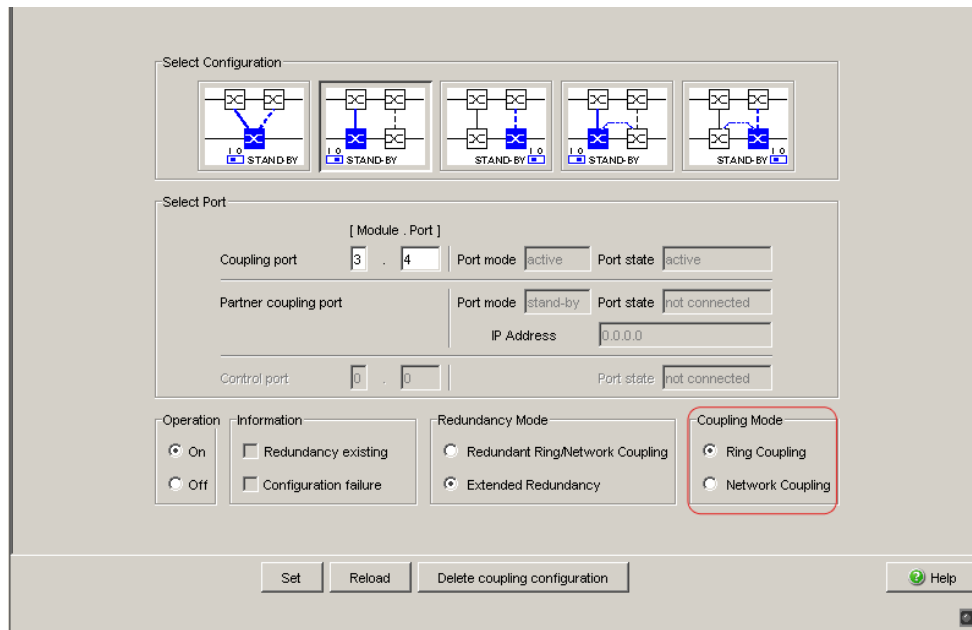

Figure 35: Two-Switch coupling: Selecting the coupling mode
- In the “Coupling Mode” frame, select (see figure 35)